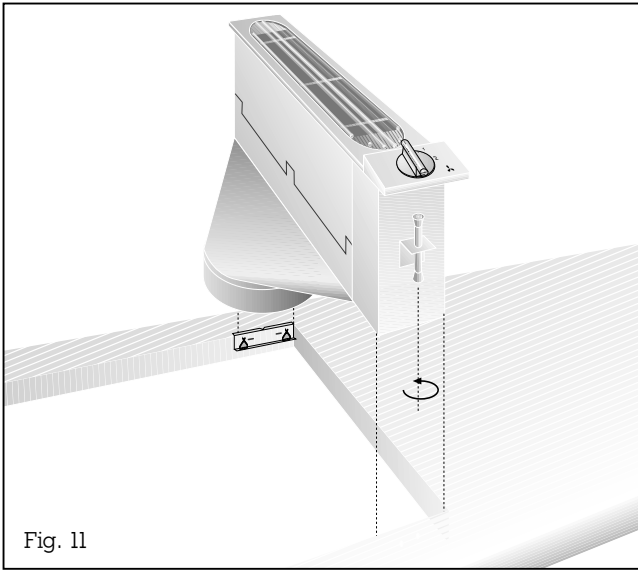

Fig. 11
- **Screw the included screw** from below into the hooked-in retaining bracket (fig. 11). Fit the cap onto the top of the screw.